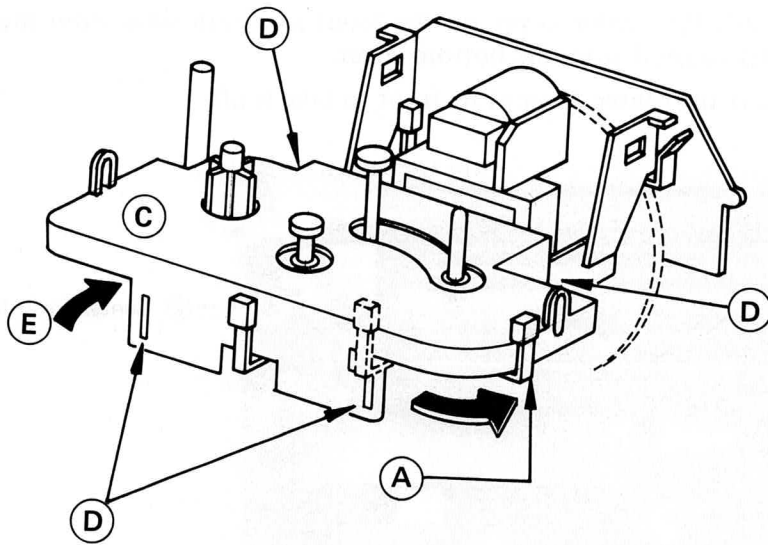

Fig. 5.3
- (2) Removing the ribbon base cover (Refer to Fig. 5.3 on page 12)
- (3) Removing the ribbon feed unit (Refer to Fig. 5.3 on page 12)
Step 1. To remove the ribbon feed unit, remove one mounting screw located at point (E) .
- (4) To replace the ribbon feed unit, reverse the procedures outlined above.